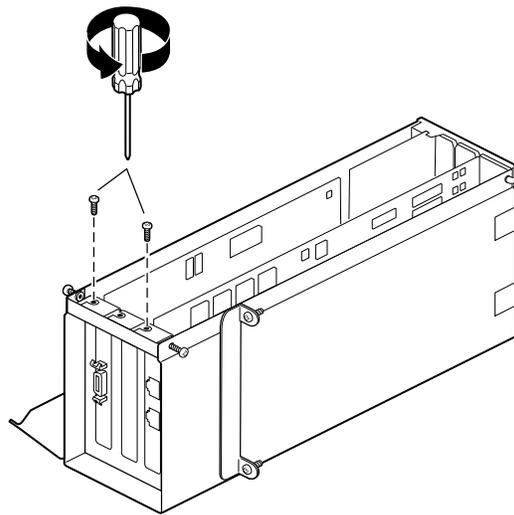

Figure 4-20 Removing the I/O Panel Screws
1. If boards are installed in the PCI module, remove the I/O panel screws that secure the boards, as shown in Figure 4-20.